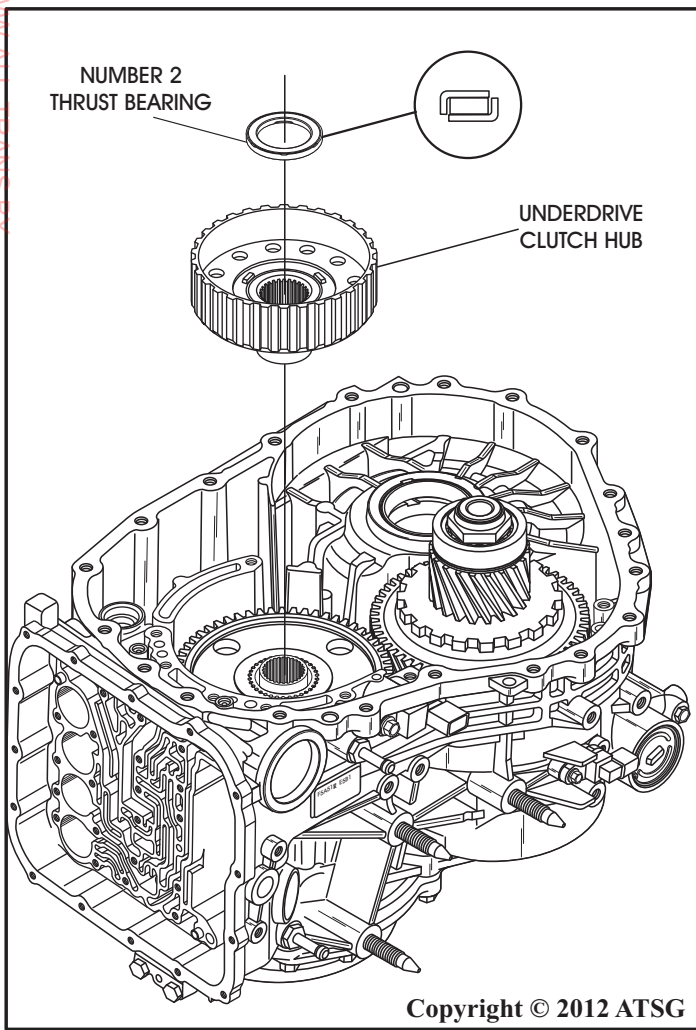

Figure 289
95. Install the underdrive clutch hub and number 2 thrust bearing, as shown in Figure 289.